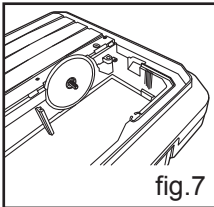

fig.7
- Fit the diamond disc (fig. 7). Please pay attention to the rotation direction on the diamond disc. The direction arrows on the disc must be in the same direction as that marked on housing.